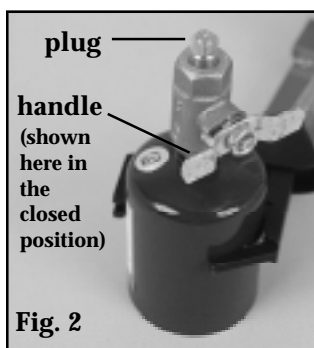

Fig. 2
On receiving one of these cylinders, we recommend inserting a septum-inlet adapter in the ball valve on the cylinder. Fig. 2 outlines the parts of this valve. The valve itself is made of bronze, as the reagents shipped are not corrosive toward bronze in the absence of atmospheric moisture.
1. The cylinder should be clamped or held in place as shown in Fig. 2.
2. Make sure the ball valve handle is closed (Fig. 2).